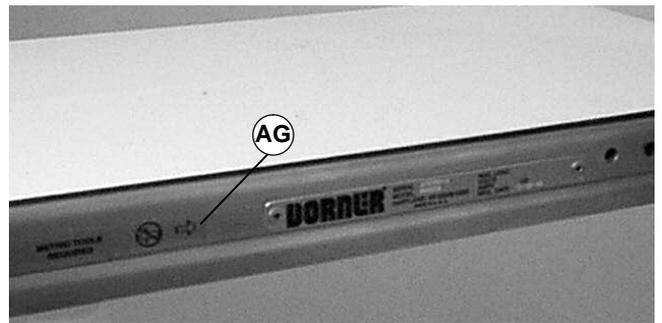
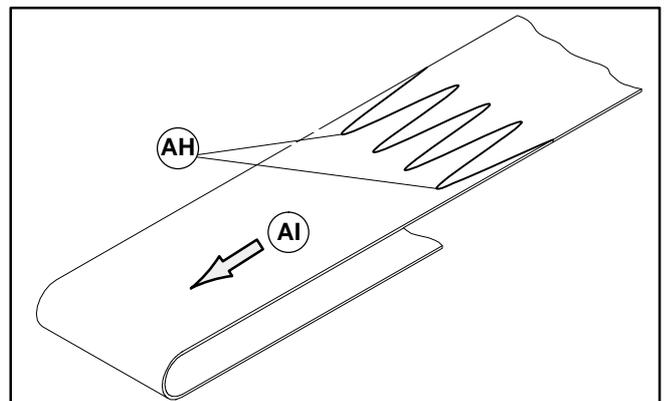

Figure 25
Figure 26
IMPORTANT: On a flat belt conveyor, the wiper is installed on discharge end. Belt travel direction is identified by an arrow decal on the side of the conveyor (AG of Figure 25). With a reversing gearmotor, a second bottom wiper must be installed on opposite end.
1. Orient the conveyor belt so that the splice leading fingers (AH of Figure 26) point in the direction of belt travel (AI) as identified by the label (AG of Figure 25).